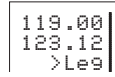

Figure 3-5
2. Use the left knobs to tune the frequency. Notice that the KLX 135 only displays two digits after the decimal point, so it has to cut off the last digit. For example, in figure 3-5 the standby frequency is 123.125 MHz and the KLX 135 displays 123.12.